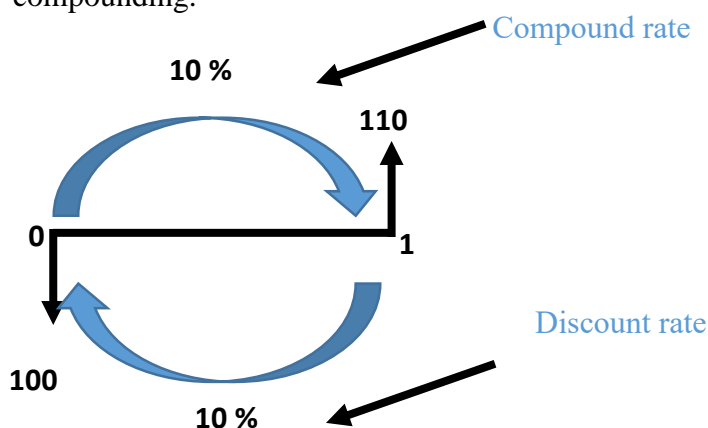

Fig 3: Compound and Discount rate
- The figure 3 represents compounding and discounting the present and future value with 10% interest rate